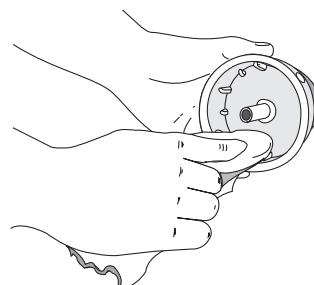

Fig. 32
4. Use a clean cloth to clean the inner reel, spring, shaft and inner surface of the outer spool (Fig. 32).